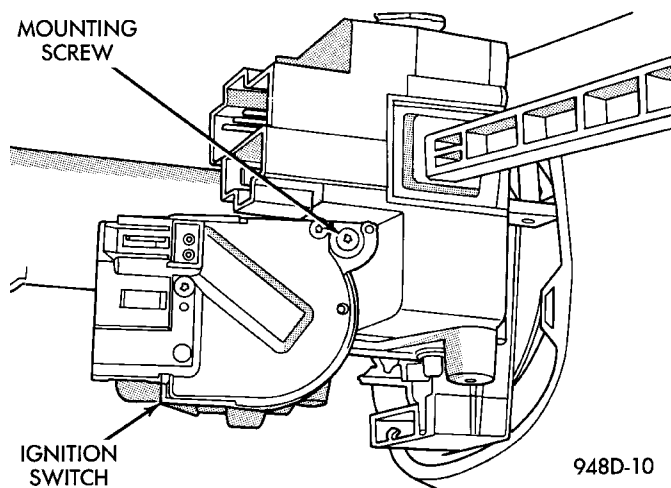
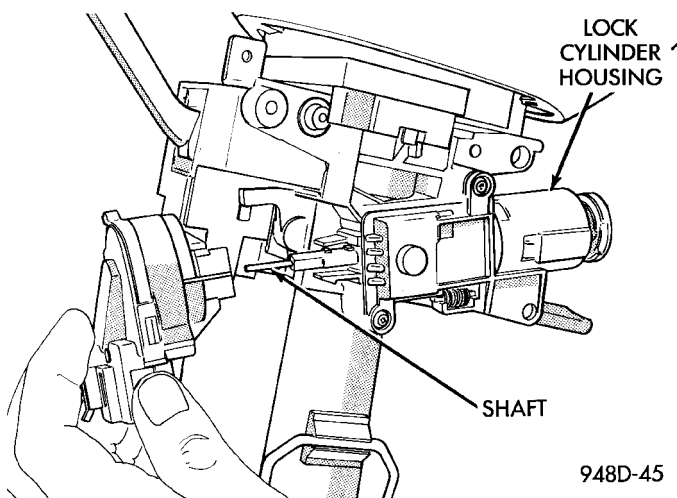

Fig. 42 Ignition Switch Mounting Screw
Fig. 44 Ignition Switch Installation
(4) Disconnect electrical connectors from ignition switch.
(5) Remove ignition switch mounting screw (Fig. 42) with a #10 Torx® bit.
(1) Ensure the ignition switch is in the RUN position and the actuator shaft in the lock housing is in the RUN position.
(2) Carefully install the ignition switch. The switch will snap over the retaining tabs (Fig. 44). Install mounting screw (Fig. 42).
(3) Install electrical connectors to ignition switch.
(4) Install upper and lower shrouds.
(5) Install key cylinder (cylinder retaining tab will depress only in the RUN position).
(6) Connect negative cable to battery.
(7) Check for proper operation of ignition switch and key-in warning switch.